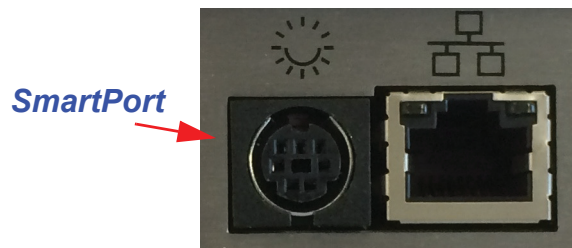

Figure 3-3 SmartPort Location
- Locate *SmartPort* on bottom of **ApexRemote** as shown in Figure 3-3.